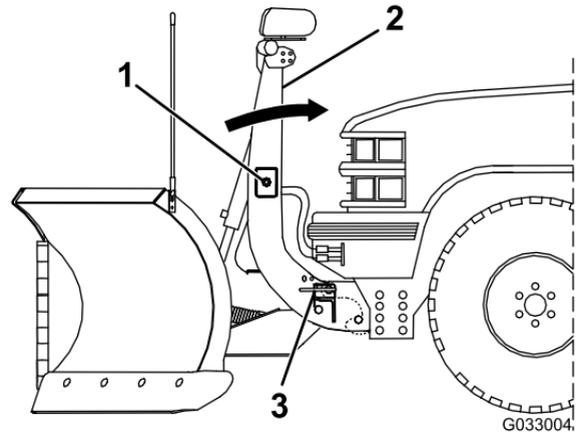

Figure 27
- Push the SmartHitch2 switch on the side of the coupler tower upward and raise the tower until the spring pins lock in (Figure 27).